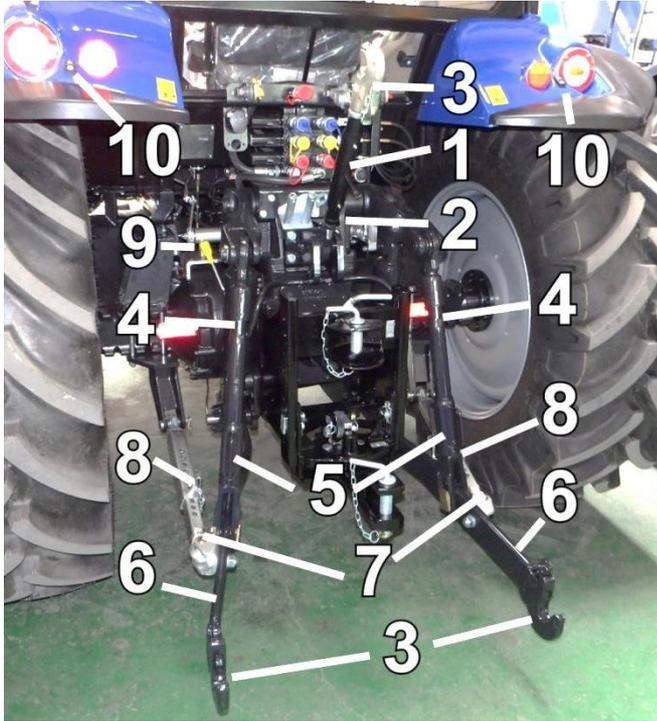

Fig. 4.6.1. Three-point linkage
The tractor hydraulic lift system with three-point linkage (see Fig. 4.6.1 and 4.6.3) facilitates control of implements and machines from operator's place.
- using the lift control switch on rear mudguard (10- Fig. 4.6.1), raise the lower links to the position in which implement hitch pins join tractor lower links quick couplers,
- depending on the implement, attach the top link (2 - Fig. 4.6.1) to a selected hole of the lift rocker and then to the implement cross shaft adjusting its length as necessary,
- adjust the stabilizer bars for side swing (Fig. 4.6.1),
To lengthen or shorten the stabilizers use tube nut (8 - Fig. 4.6.1) with handle.
After setting length of both stabilizers secure the nut with lock nut (9 - Fig. 4.6.1).
Apart from the three-point hitch (Fig 4.6.1), the machines and implements can be attached to: